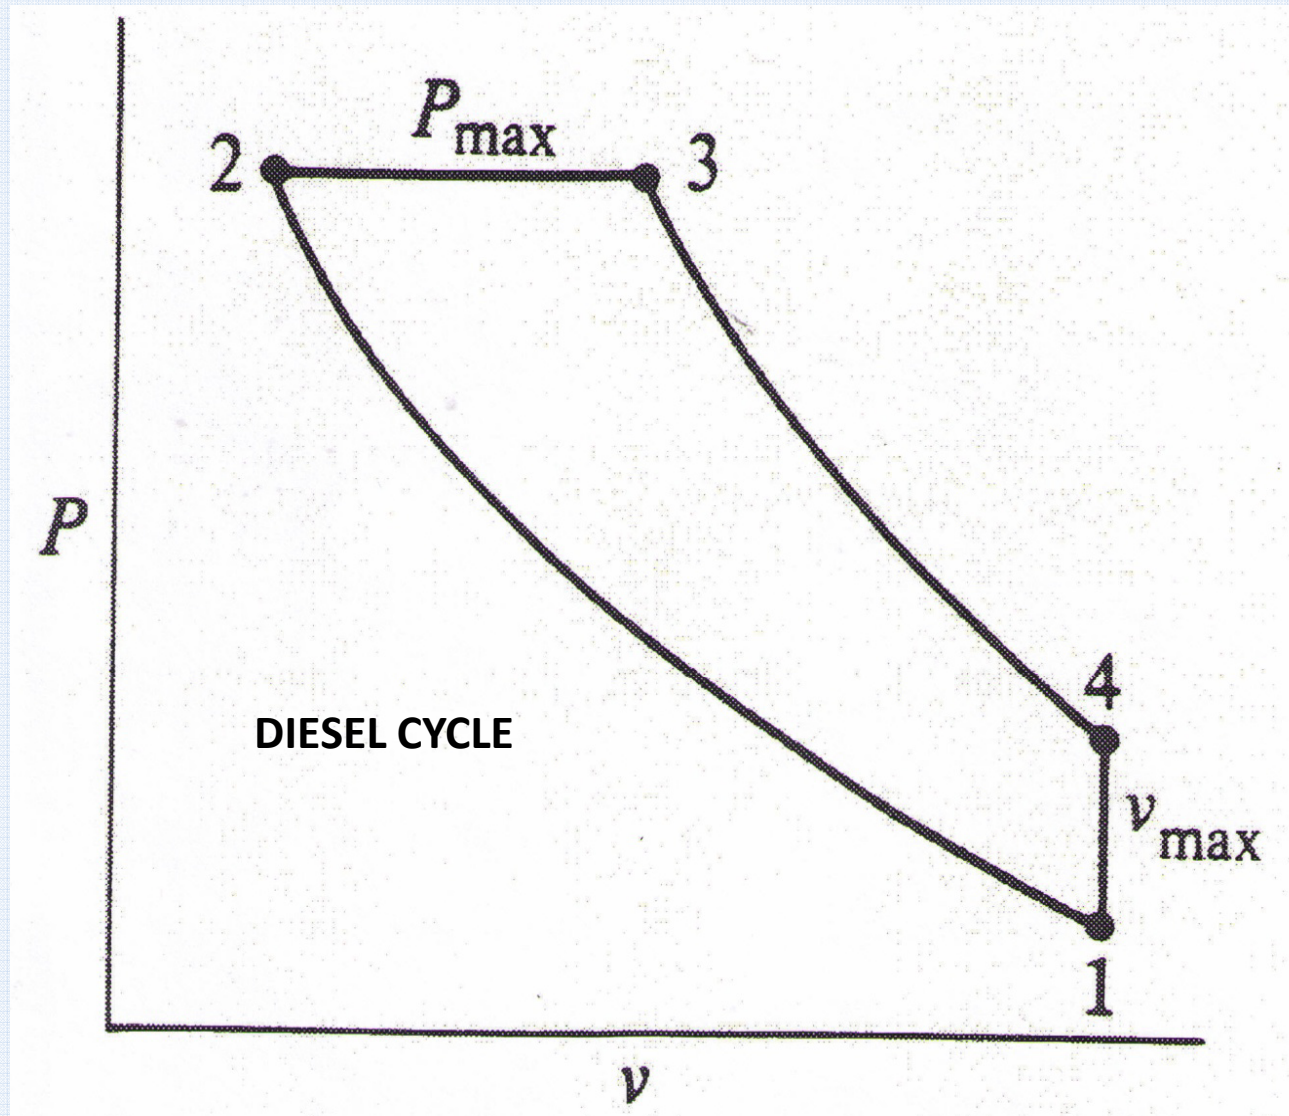

Figure 2-13 Air Standard Diesel Cycle
- Diesel engine operation is based upon the ideal air standard cycle illustrated in Figure 2-13 A through C. These are plots of cylinder pressures and volumes during the diesel cycle.